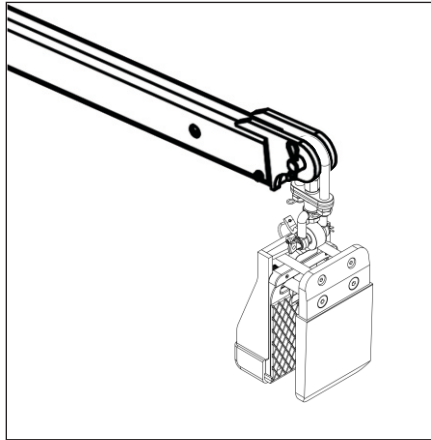

Figure 1.1
Step 1: Hook the lifter to a forklift boom (Figure 1.1).